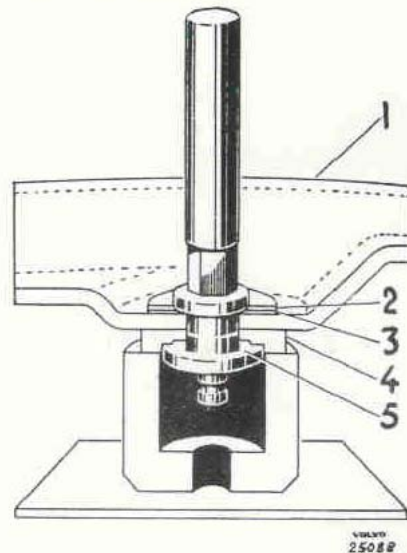

Fig. 22. Removing the pin (rear shoe of rear wheel brake unit).
The pin (5, Fig. 22) for the adjusting cam (4) which is fitted in the brake backing plate can be replaced by pressing out the old one and staking in a new one with the special staking tool SVO 2119.
1. Remove the brake backing plate. Place the cushioning sleeve belonging to the staking tool in a press as shown in Fig. 22 and press out the pin (5) with the help of a drift in the case of the rear shoe of the rear wheel brake unit. On other shoes the pin and adjusting cam are made in one piece so that a larger cushioning sleeve which goes over the cam must be used.